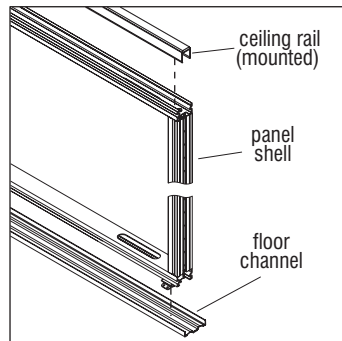

Figure 4
4. Panel installation (Figure 4).